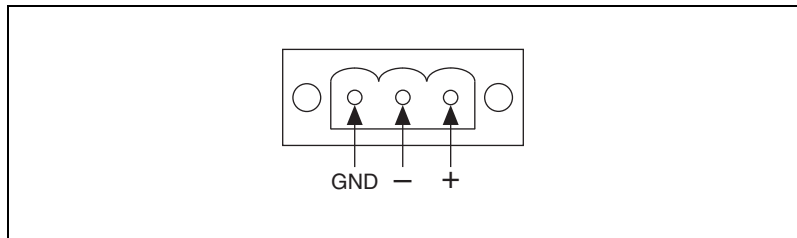

Figure 3. Power Receptor and Pin Assignment
4. Connect the power connector to the power receptor on the TPC-22xx. The power receptor pin assignment is shown in Figure 3.